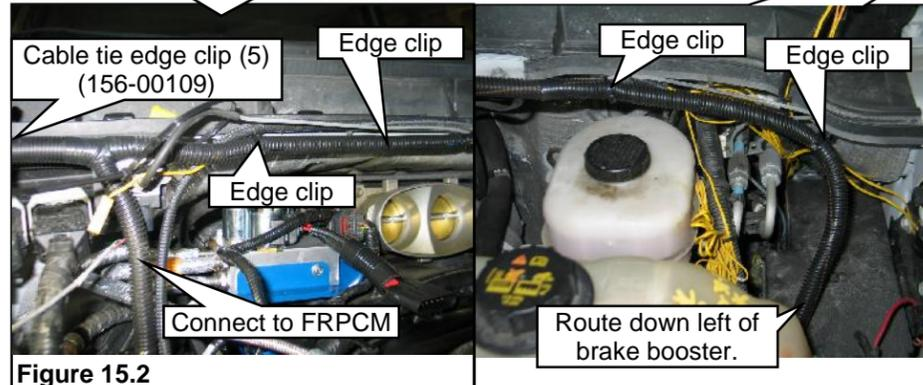

Figure 15.2
9. Install five cable tie edge clips to the top of the cowl area as shown. Route the underhood harness across the cowl over to the left of the brake booster. Attach the harness to the edge clips. **Figure 15.2.**
12. Tighten the cable tie edge clips around the harness to secure the harness. Make sure all connections are routed correctly and attached before tightening. **Figure 15.2.**